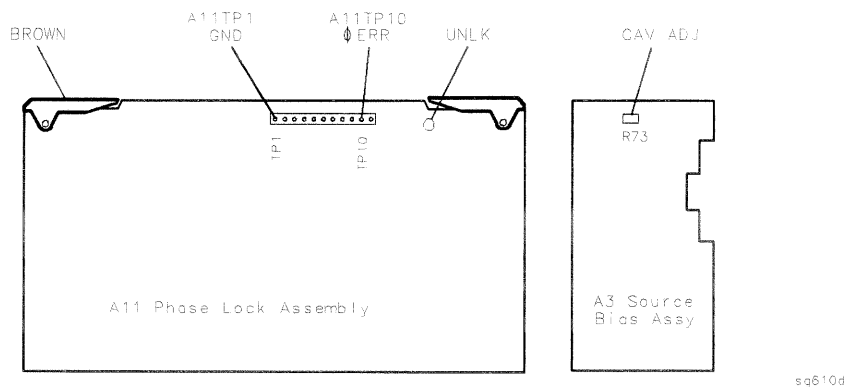
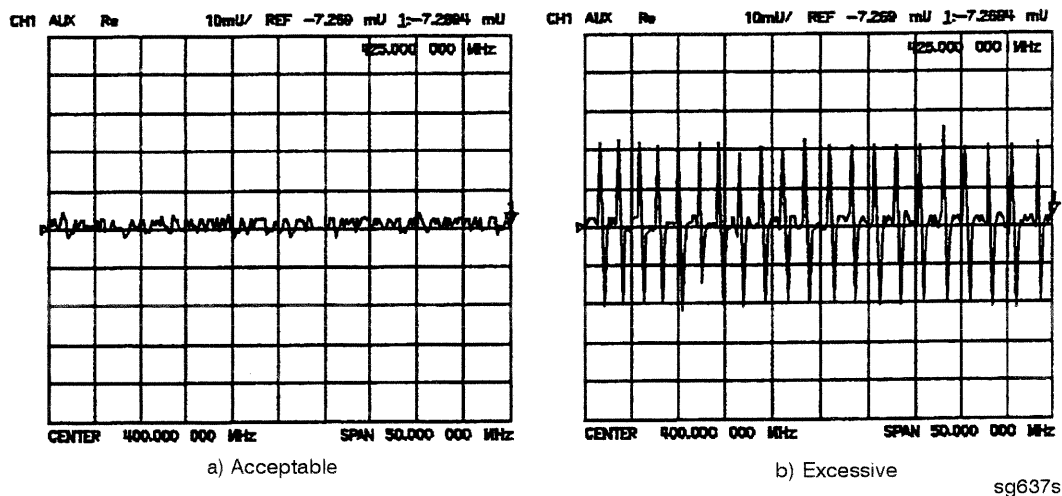

Figure 3-26. Location of A11 Test Points and A3 CAV ADJ Adjustments
Figure 3-27. Display of Acceptable versus Excessive Spikes
1. Mate the adapter to the BNC cable and connect the BNC connector end to AUX INPUT on the HP 8753D rear panel. Connect the BNC center conductor alligator-clip to A11 TP10 (labeled ϕ ERR); the shield clip to A11 TP1 (GND) as shown in Figure 3-26.
- If “Spikes” are not visible on the analyzer display (see Figure 3-27): no adjustment is necessary.
- If “Spikes” are excessive (see Figure 3-27): adjust the CAV ADJ potentiometer (see Figure 3-26) on the A3 source bias assembly to eliminate the spikes.